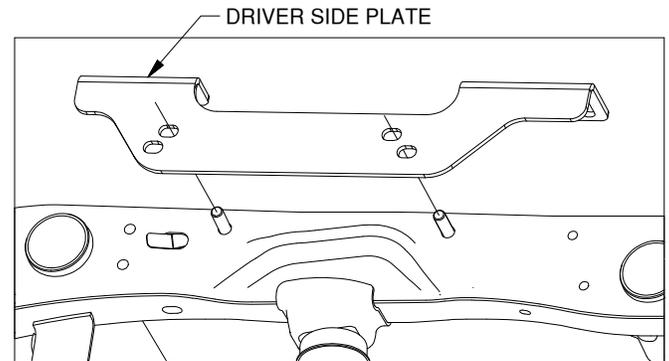
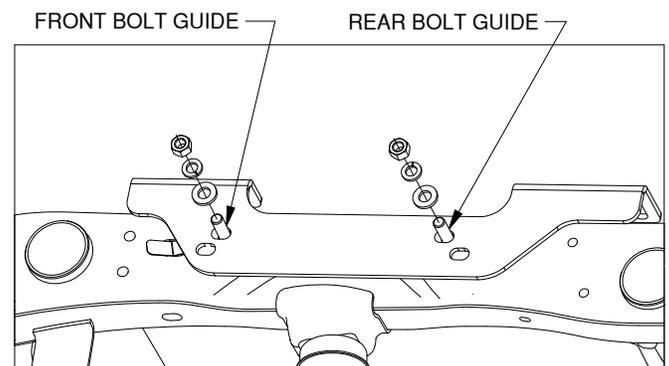

Figure B9: View from outside of driver side frame.
Figure B10: View from outside of driver side frame.
3. **Install the side plates.** Place each side plate onto the 5/8" bolts held in place by the bolt guides, see Figure B9. Attach the side plates to the frame with a flat washer, lock washer, and nut, see Figure B10. Do not tighten the mounting hardware at this time.